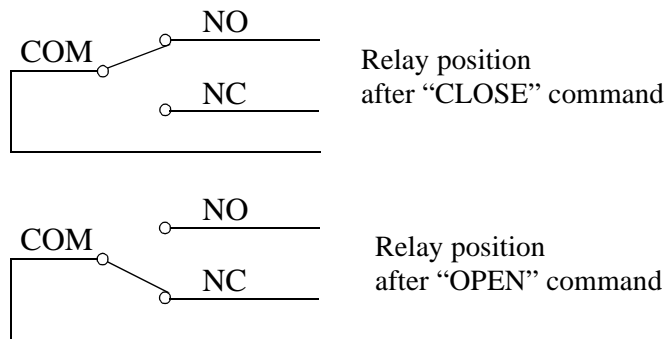

Figure 3-1. Effects of Close/Open Commands
[ROUTE:]OPEN <channel_list> opens the relays for the channels specified in the *channel_list*. After opening, the channel's Common (C) terminal is connected to the Normally Closed (NC) terminal (see "Figure 3-1. Effects of Close/Open Commands" on page 27).